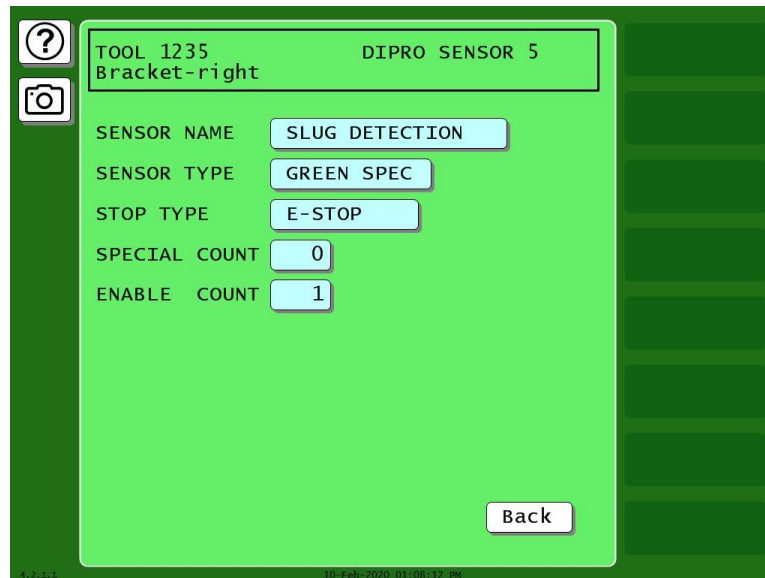

Figure 5-31. Sensor Settings Screen
1. On the Die Protection Sensor Menu, select a sensor programmed as Smart Stop. The Sensor Settings screen (see Figure 5-31, page 135) displays.
- When you have finished setting the Ready On and Ready Off angles, press RESET. The Sensor Settings screen (see Figure 5-31, page 135) displays with all your sensor settings shown.
2. Press RESET. The Sensor Settings screen, Figure 5-31, displays with all your sensor settings shown.
When you finish making settings for a sensor, you are taken to a screen that displays all your sensor settings, similar to Figure 5-31.